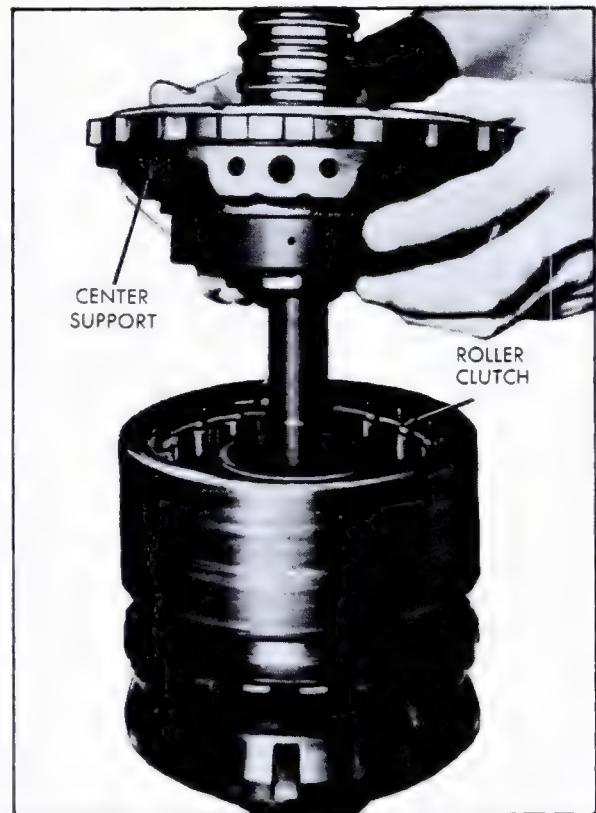

Fig. 7-105 Installing Center Support in Reaction Carrier
19. Install center support assembly into roller clutch in reaction carrier, Fig. 7-105.